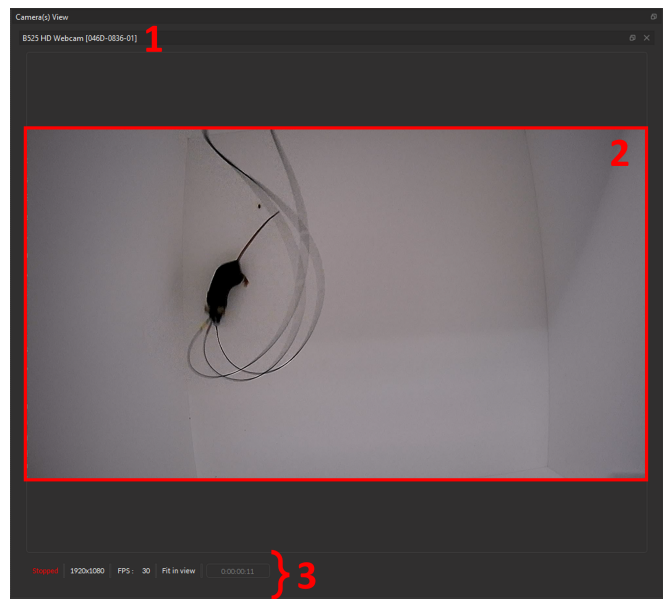

Figure 8.34: Camera View
1. The **Camera Name** (Fig. 8.34, 1) displays the serial number of the camera, which is particularly useful if multiple camera channels are used.
2. The **Camera Feed** (Fig. 8.34, 2) displays the live image of the camera.
3. The **Live Feed Monitoring Bar** (Fig. 8.34, 3) allows the user to quickly track the status of the camera feed and includes: